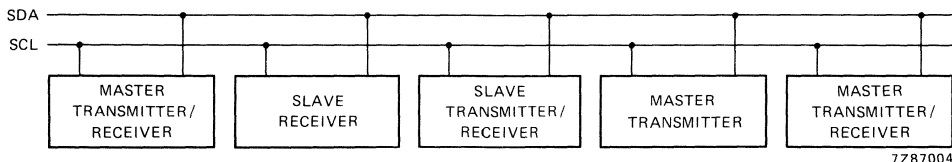

Fig. 5 System configuration.
**System configuration** (see Fig. 5)